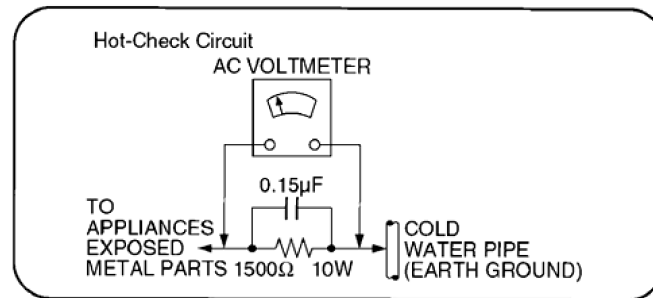

Figure 1
#### 5.1.2. Leakage Current Hot Check (See Figure 1)
2. Connect a 1.5kΩ, 10 watts resistor, in parallel with a 0.15μF capacitor, between each exposed metallic part on the set and a good earth ground such as a water pipe, as shown in Figure 1.